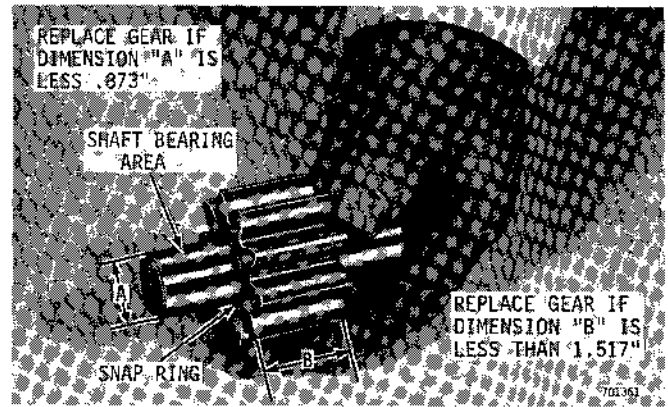

Figure 12 - Idler Gear and Shaft
- Inspect the idler gear and shaft, Figure 12. If the bearing area of the shaft measures less than .873", the shaft and gear assemblies should be replaced. Check the gear ends for scoring, bluing due to heat, and excessive wear. Check gear width; if less than 1.517", replace gear. Make sure the snap rings are in place. If the gear teeth have sharp edges, break corners with emery cloth.